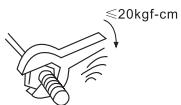

Fig. 17
1. Mounting for thread type :Do not twist the torque too tight (Fig.17)